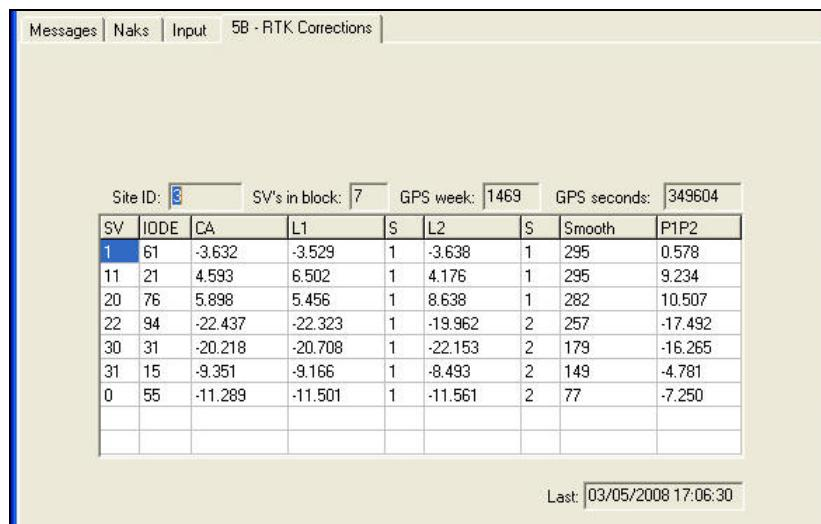

Figure 50: 5B – RTK Corrections
- *5B – RTK Corrections* (see Figure 50)